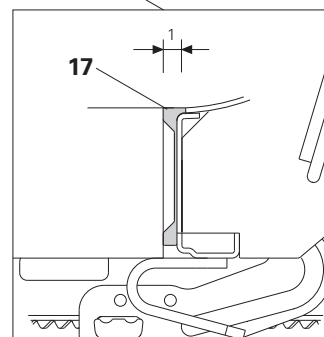

Fig. B2.01.1
1. Clamp the Adapter Strip SRS - TRIO (17) on the side of the formlining recess between the TRIO element and the Circular Column Panel.
2. Install Plugs \varnothing 20/24, Item no. 030300 in the column panel. (Fig. B2.01) The straight wall is extended thereby by 1 cm. (Fig. B2.01.1)